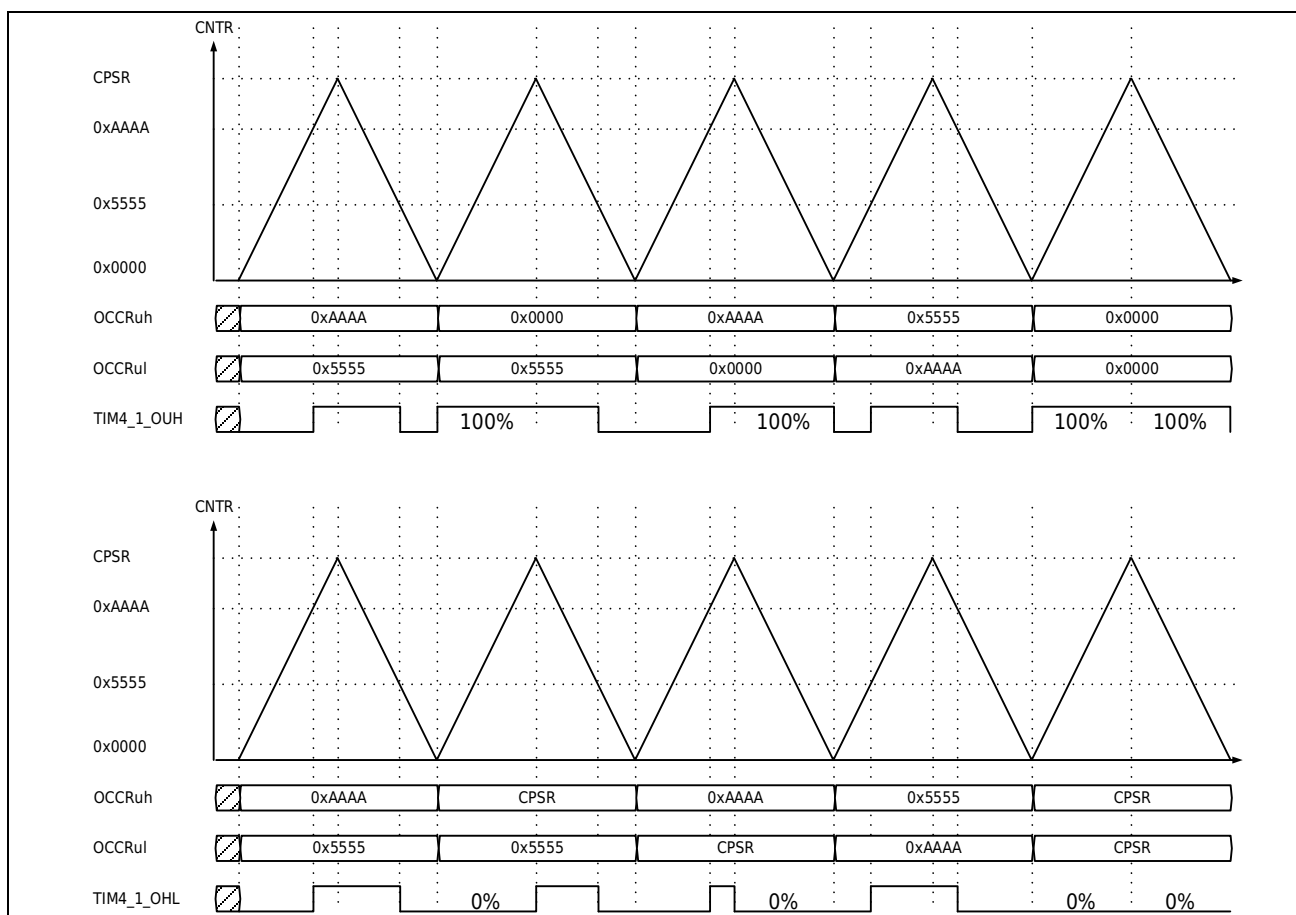

Figure 21-7 Triangle Wave Mode Waveform Output Instance
- 2) The following Figure 21-7 is an instance of the waveform output of the comparison output module in the triangle wave count mode.